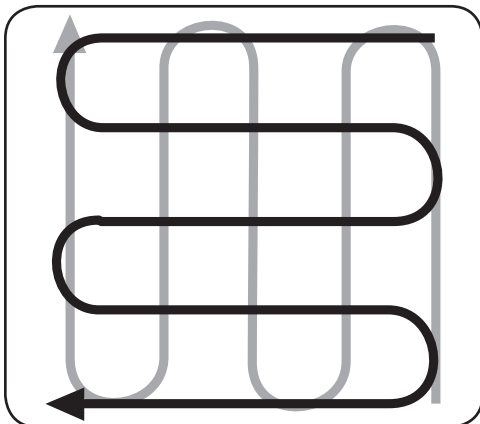

Figure 4-13
- When finished in one direction, make a second pass at a right angle. See Figure 4-13. Overlap each pass for best results. In very hard ground it may take three or four passes to thoroughly pulverize the soil.